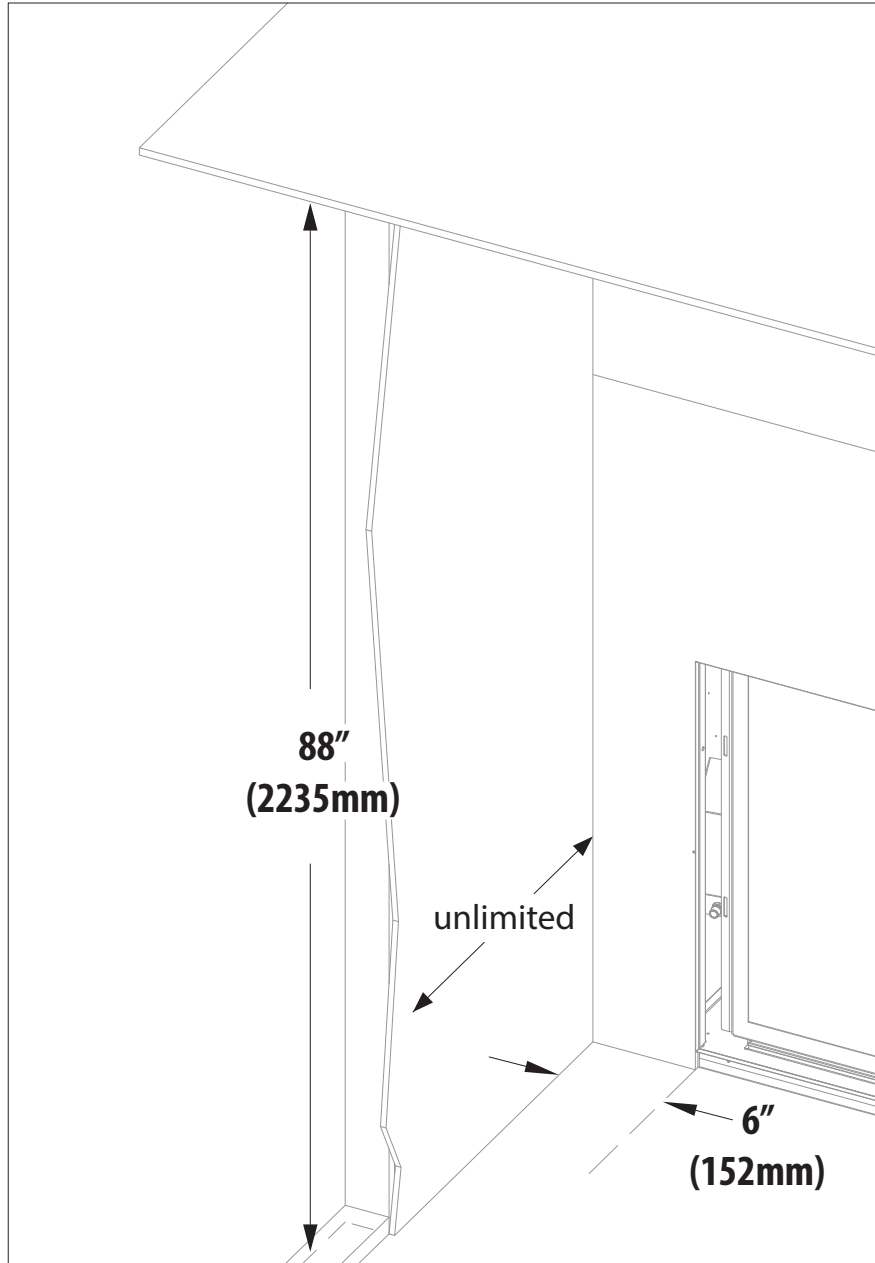

Figure 4.3, Adjacent Sidewall Clearances
- **Mantel Leg:** There is a required 6" (152mm) clearance to any combustible or non-combustible mantel leg. See Figure 4.3 on page 31.
- The adjacent sidewall minimum clearance is 6" (152mm) from the side finishing edges of the fireplace. See Figure 4.3 on page 31.